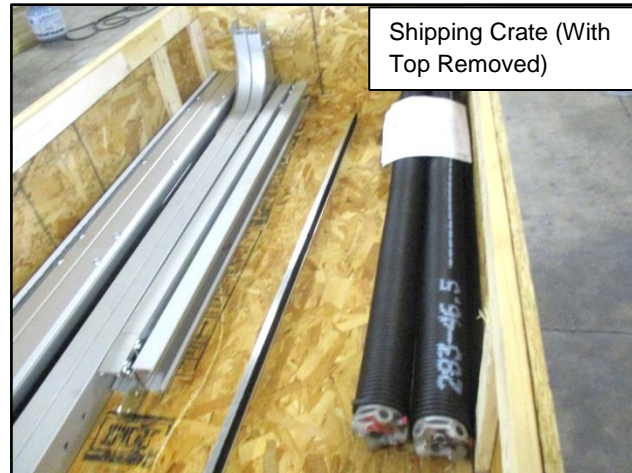

Figure 9
1. Carefully open up the crate by taking off the crate's top panel(s) and cross member supports. Remove the side column, track, drive shaft, rear seal assemblies, and the small parts carton, etc. from the top half as they are needed. (See Figure 9)